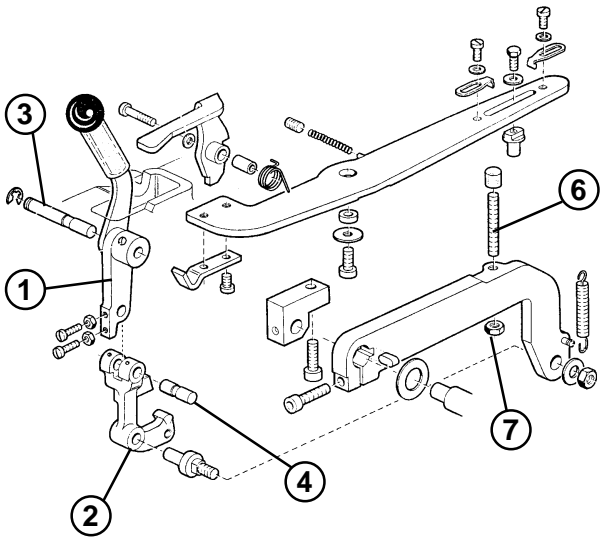
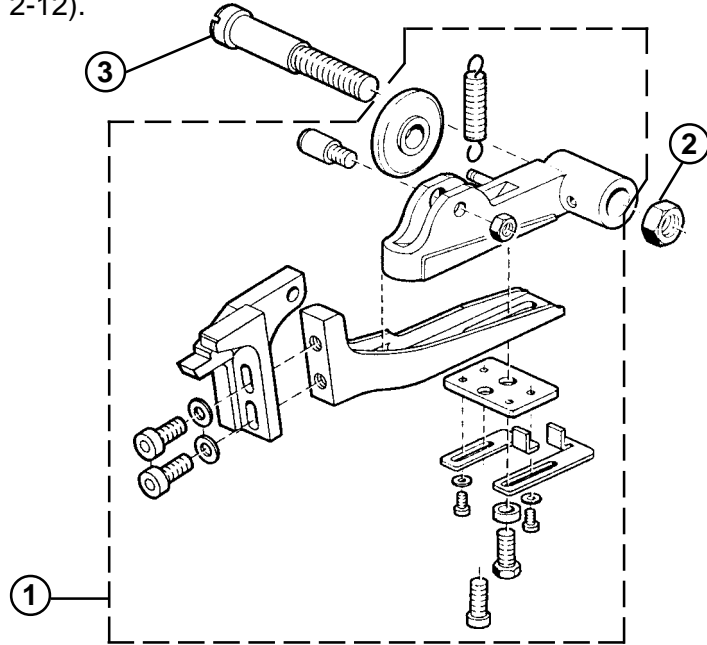
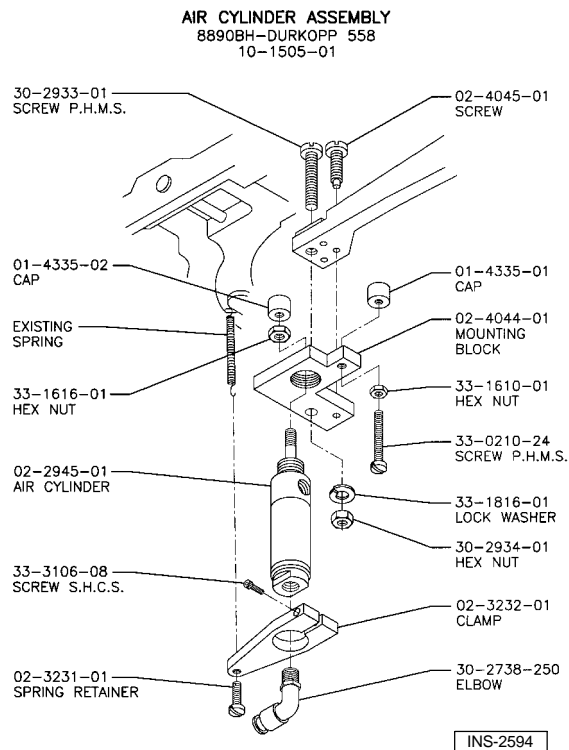

FIG. 2-9
FIG. 2-10
FIG. 2-12
WARNING: Insure that there is at least 1/16th of an inch clearance between bottom of the home and sew sensors and the home position and first stitch blocks (Fig. 2-9) so that no damage is caused to the sensors when the machine is cycled.
D. To install the start switch assembly. Remove the hand lever and clamping angle (Fig. 2-9, Item 1 & 2) by removing the two pivot pins (Fig. 2-9, Item 3 & 4). Remove the manual start switch (Fig. 2-9, Item 5). Remove the stop stud and locking nut (Fig. 2-9, Item 6 & 7). Remove the clamping lever (Fig. 2-10, Item 1) by removing the lock nut and pivot bolt (Fig. 2-10, Item 2 & 3). Install the start switch. (See Fig. 2-12).
E. To install the air cylinder assembly. See Fig. 2-12.